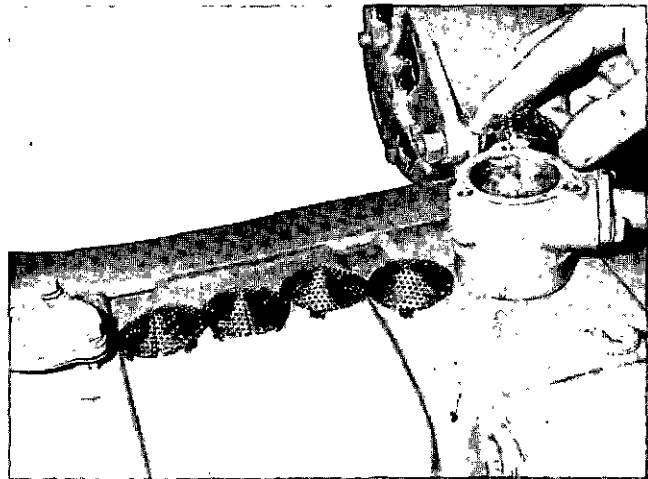

Fig. 2-21 (N21928) Crankcase breather — screen type
2. Remove capscrews, washers, cover, screens and baffle if used, from breather body, Fig. 2-21.